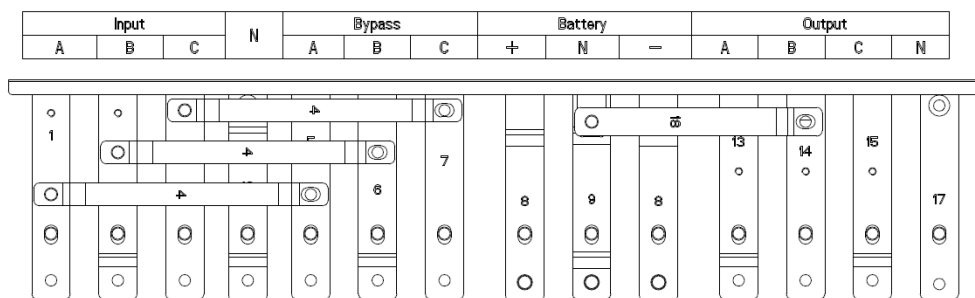
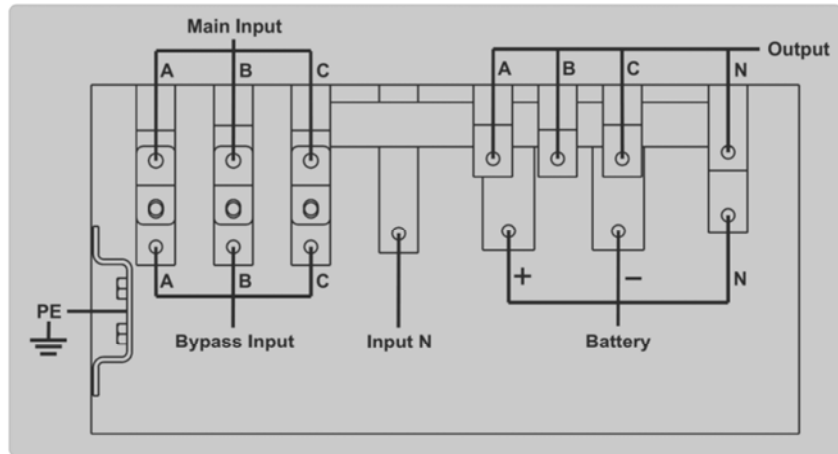
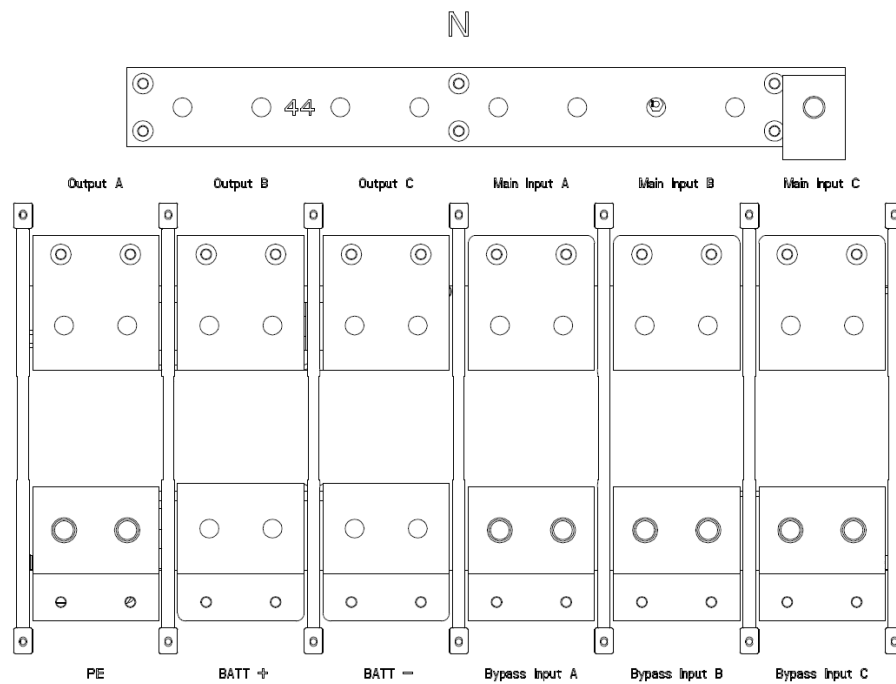

Figure 2-15 2-slot cabinet UPS connection terminals
Figure 2-16 6-slot cabinet UPS connection terminals
Figure 2-17 6-slot cabinet UPS connection terminals
- 2) Open the door of the cabinet (the front door for 2-slot and 4-slot cabinet UPS; the back door for 6-slot and 10-slot cabinet UPS), remove the metal or plastic cover. The input and output terminal, battery terminal and protective earth terminal are shown in Figure 2-15, Figure 2-16 and Figure 2-17.